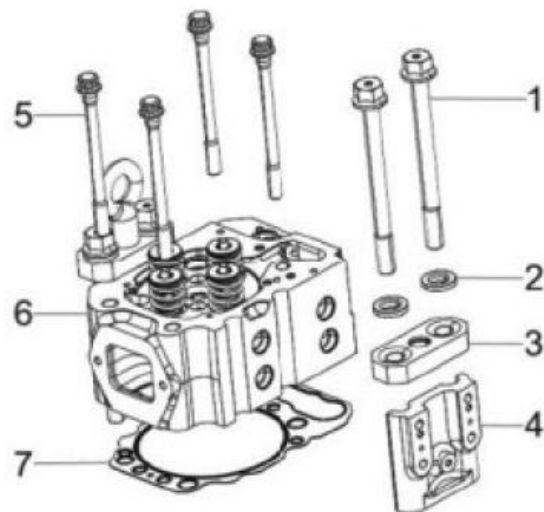

Figure 64. Cylinder Head Assembly
- 1. Carefully clean both the combustion surface of the cylinder head and the top surface of the cylinder block. Then place a new cylinder head gasket (Figure 64, Item 7) on the cylinder block.
- 2. Position the cylinder head (Figure 64, Item 6) on the cylinder head gasket.